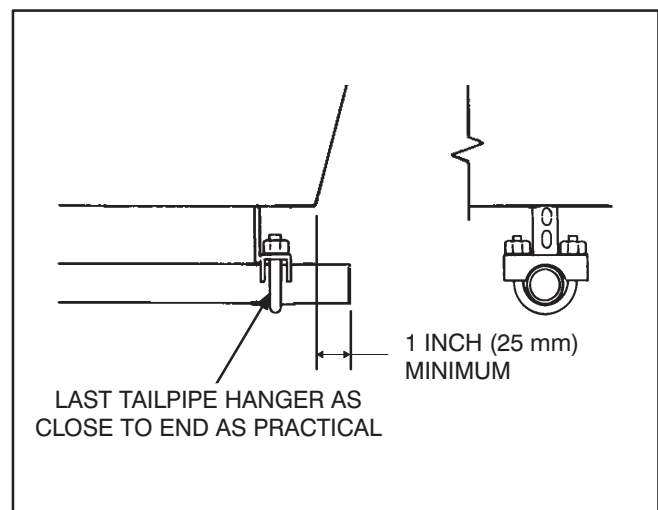

FIGURE 10. TERMINATING THE EXHAUST TAILPIPE
5. Do not terminate the tailpipe underneath the vehicle. Extend it a minimum of 1 inch (25 mm) beyond the perimeter of the vehicle (Figure 10). Support the end of the tailpipe such that it cannot be pushed inward and up under the skirt of the vehicle.